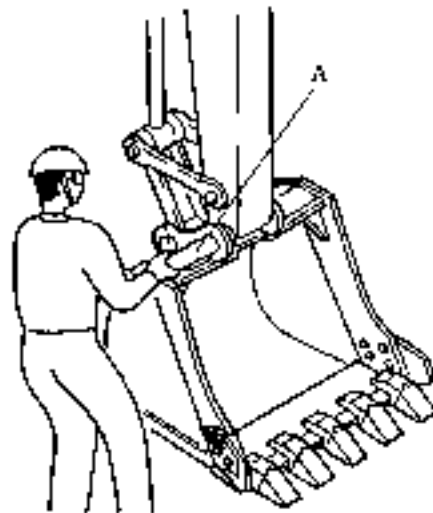

Fig. 1 Removing bucket pin
- 2) Remove the ring and the pin by means of a flat-bladed screwdriver and draw out pin (A), in order to remove pin (A) in the embossment of the bucket. (Fig. 1)